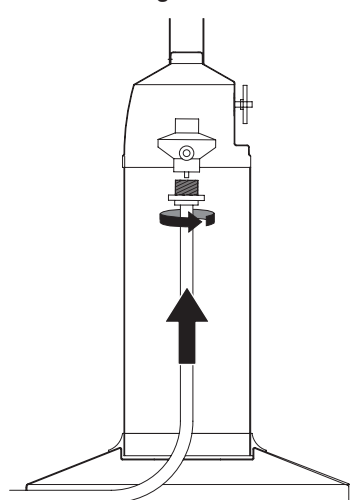

Figure 2
1. Slip end of flexible gas line with brass fitting through center hole of Base and up to threaded portion of regulator. (Figure 2)